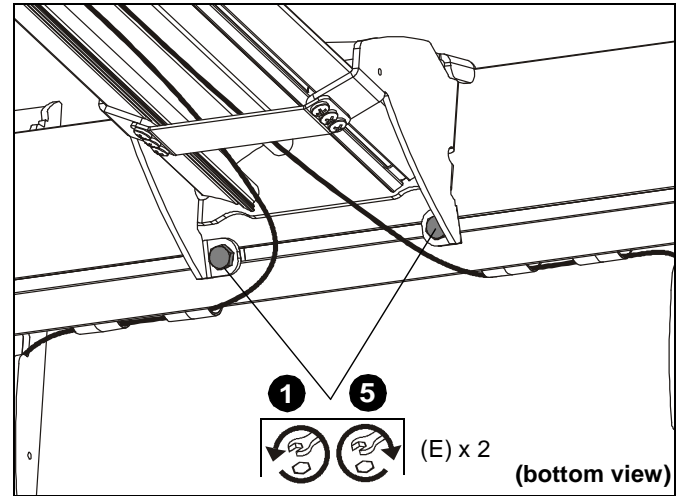

Figure 65
- Loosen two 1/4-20 x 5/8" hex head cap screws (E) on underside of mounting bracket. (See Figure 65)
- Tighten two 1/4-20 x 5/8" screws (E) on underside of mounting bracket. (See Figure 65)